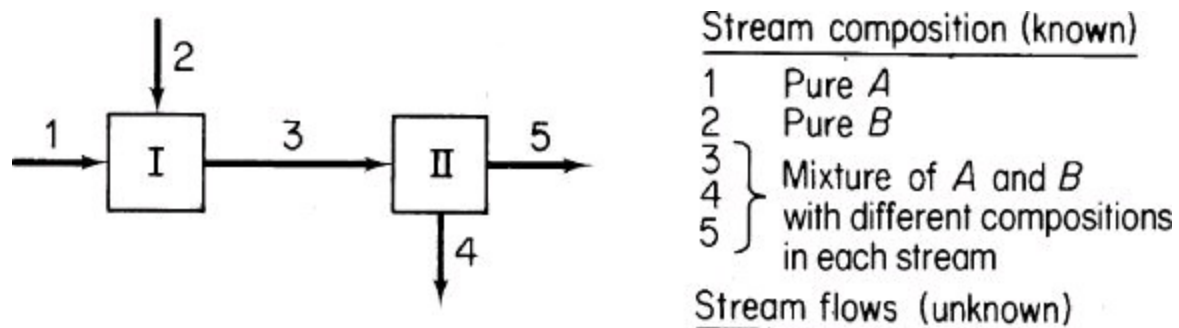

Figure P6.1.2
****6.1.2.** What is the maximum number of independent material balances that can be written for the process in Figure P6.1.2?